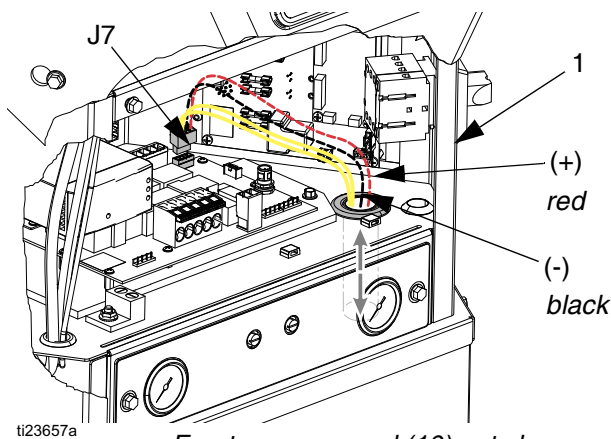

FIG. 58
3. Route fan wires with transformer wires into the electrical enclosure (1). Connect red and black fan wires to J7 connector. Reconnect J7 connector to AWB board. See FIG. 58.